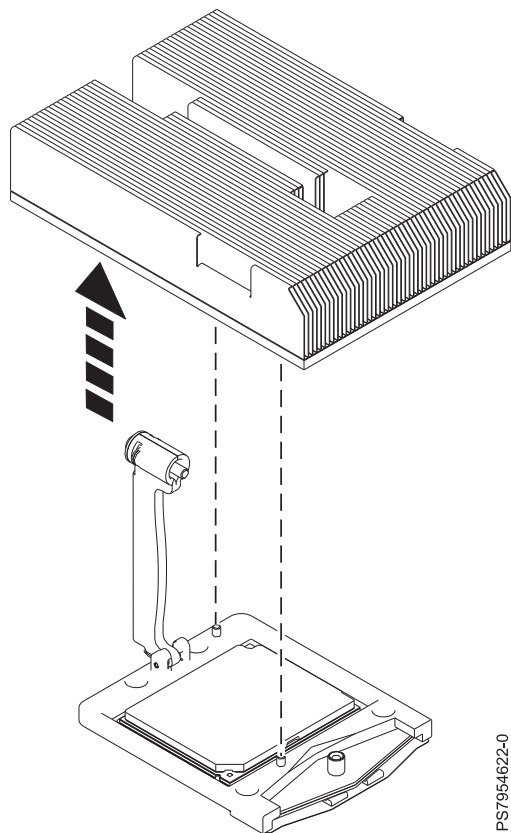

Figure 33. Removing the heat sink
- b. Grip the heat sink **(B)** by the grooves on opposing sides and remove the heat sink by lifting it upward, as shown in Figure 33 on page 71. Set the heat sink aside on an electrostatic discharge (ESD) surface with the microprocessor side facing upward.